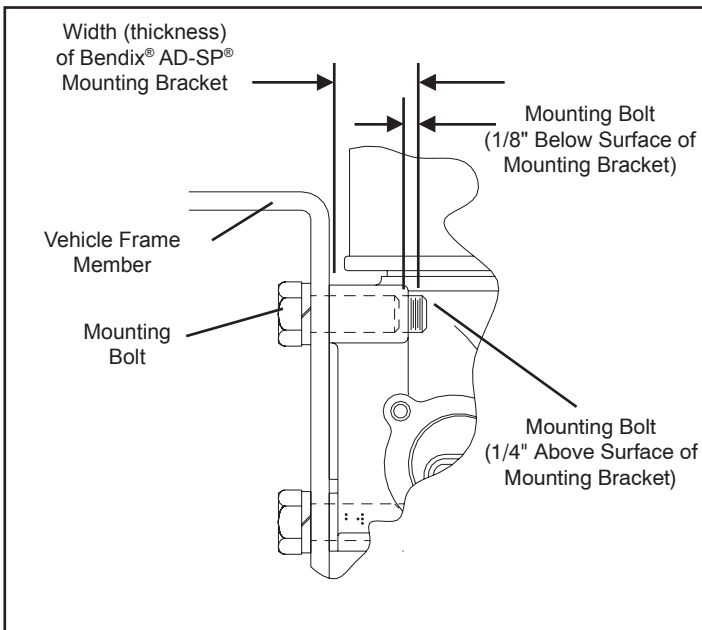

Figure 3 Bendix® AD-SP® Air Dryer Mounting Bracket Bolt Length Limits
2. **IMPORTANT:** The length of the three mounting bolts used to attach the AD-SP air dryer to the mounting plate is very important. *Refer to figure 3.*
The threaded end of the 1/2"-13 UNC bolt must be between 1/8" below to 1/4" above the surface of the AD-SP air dryer mounting bracket surface when **fully installed and tightened to 50 lb-ft**. Damage to the AD-SP air dryer body will result if the bolt warning is ignored. Measure the thicknesses of all materials that the three mounting bolts must pass through. Small adjustments can be made using flat washers under the bolt heads. Do not use more than three (3) flat washers. *Refer to Figure 3.*